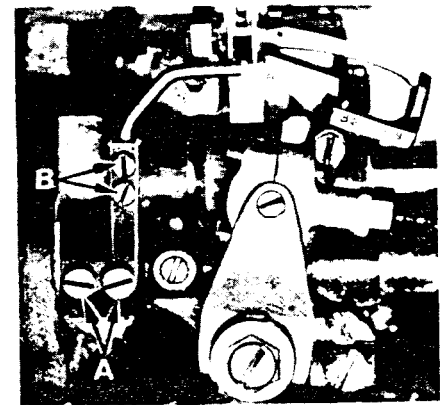

Fig. 12
Set the front needle guard so that it pushes the left needle back toward the path of the looper as it moves behind the needle. The looper may brush but not pick at the left needle. It should be set as low as possible, yet have its vertical face push the left needle until the point of the looper is just past the left side of the left needle. The front needle guard should not contact the rear needle guard or right needle at any time. To move guard forward or backward, merely loosen screws (A, Fig. 12) move needle guard as required and retighten screws. To raise, lower or rotate needle guard, loosen screws (B), move guard and retighten screws after guard is properly set.